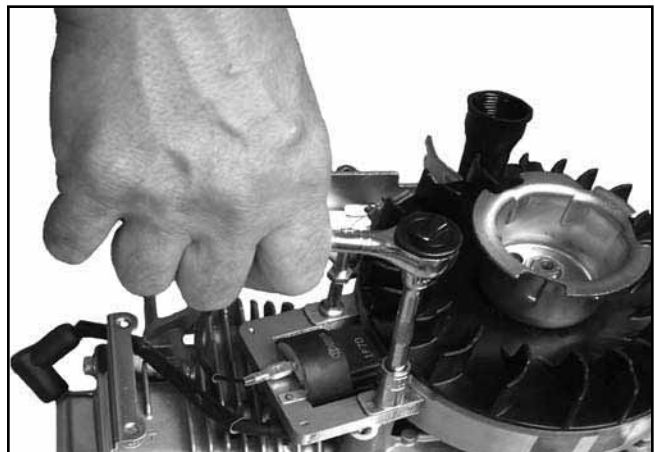

Figure 8-26. Removing Ignition Module.
2. Remove the hex flange screw and the stud securing the ignition module. Mark the stud for identification during reassembly. See Figure 8-26.